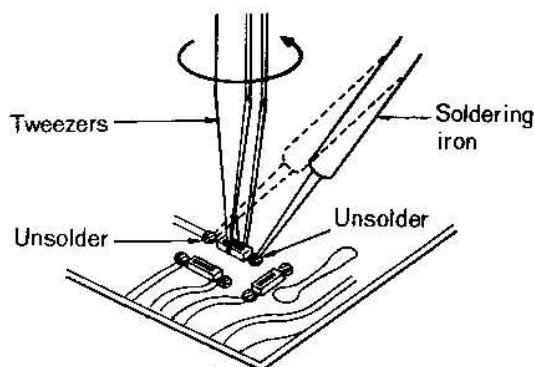

Fig. 13
2. Remove chip with tweezers by rotating it while removing solder as shown in fig.13.